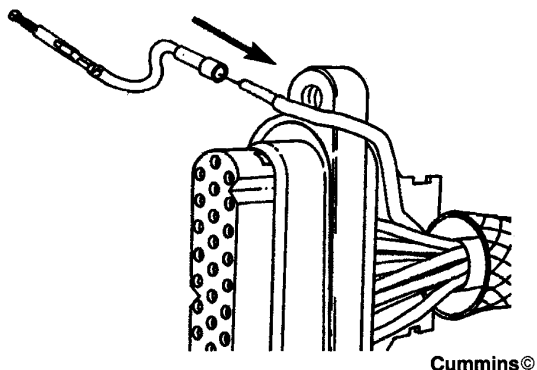

Figure 71 Make Sure Bare Wire Extends into Splice Connector
6. Install replacement terminal/wire on the stripped wire end. **NOTE: Make sure the bare wire extends into the splice connector (Figure 71).**